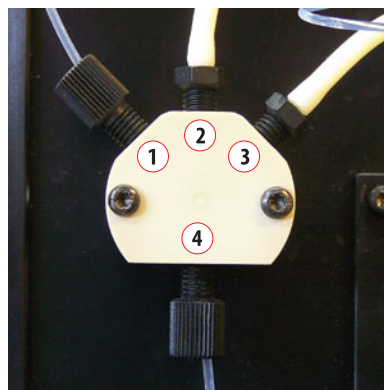

Figure 2. 4-way connector with nuts attached.
- Disconnect the four tubing nuts from the 4-way connector (**Figure 2**). Nuts in positions 2 and 3 may be tight so use a 5/16" crowfoot wrench to loosen.
- Once all of the ports have been flushed, re-attach the 4 tubing nuts to the 4-way connector. Refer to **Figure 2** for correct tubing attachment.